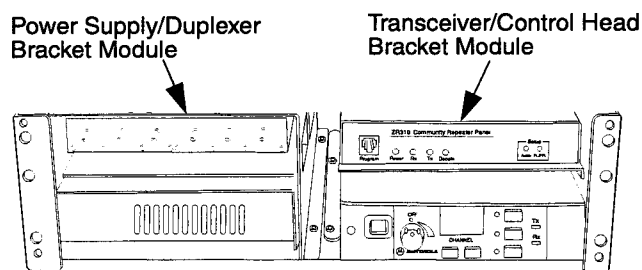

Figure 2-3. Bracket Module Positions
1. Place the assembled transceiver/control head bracket module into the right side position in the RKR1225 repeater housing. See Figure 2-3.
3. Replace the two (2) TT4.0 screws removed from the right side in Step 6 under "Disassembling the Repeater Housing" on page 2-3.
1. Place the power supply/duplexer bracket module into the left side position of the RKR1225 repeater housing. See Figure 2-3